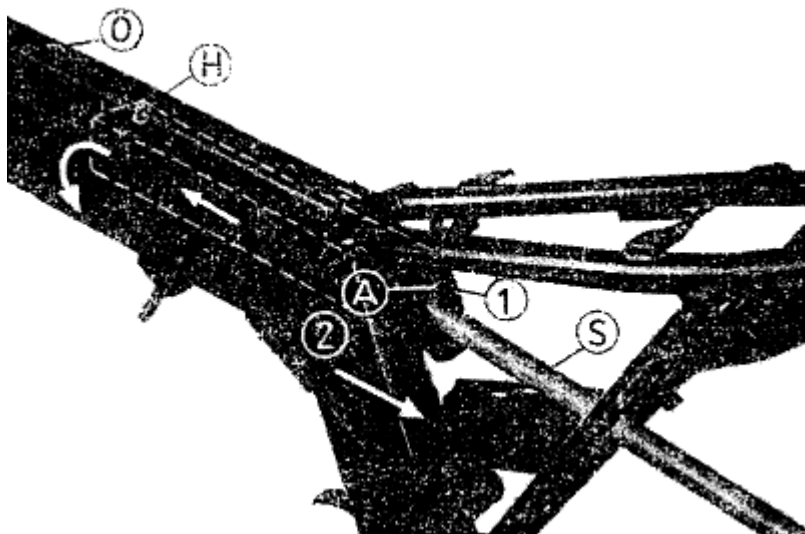

Fig. 174. Mounting the intake pipe
The induction hose (1 in Fig. 174), which also serves for silencing, is fastened to the rear end of the frame carrier directly in the opening in the sheet-metal with the help of a groove in the rubber. A lug cast on the front end of the hose (H) retains it in the opening (Ö) of the frame carrier.